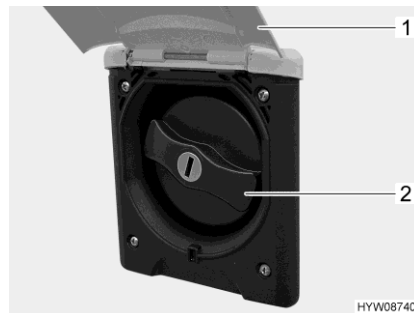

Fig. 157 Cap (drinking water filler neck)
- Swivel the external flap (Fig. 157,1) upwards.
- Turn the blue cap (Fig. 157,2) one quarter turn.